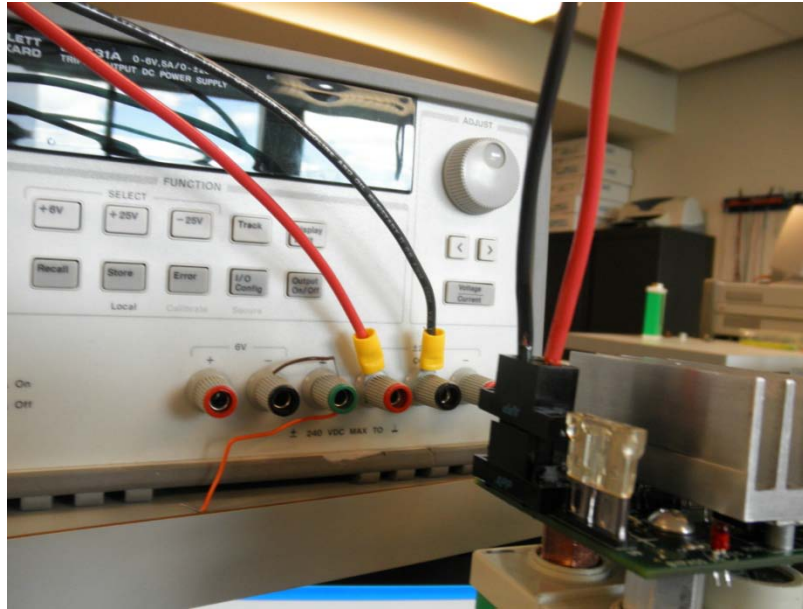

Figure 3- Power/ Load Connector
7. For a setup without a relay, connect the positive terminal of the power supply to the positive terminal of the pack, and the negative terminal of the power supply to the negative terminal of the pack as show in *figure 3*.
7. For a setup without a relay, connect the positive terminal of the load to the positive terminal of the pack, and the negative terminal of the load to the negative terminal of the pack as show in *figure 3*.